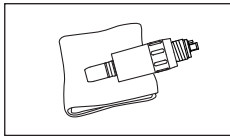

Fig. 14
- 4) Wipe the exterior of the motor clean using a cloth moistened with disinfectant or ethanol with a concentration of 60-90% (Fig. 14).